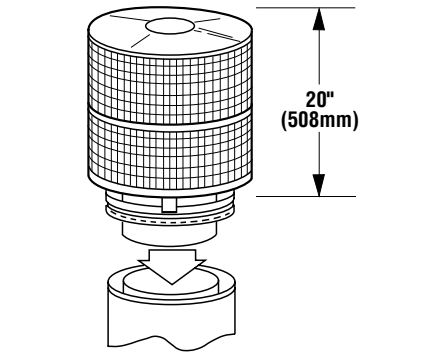

Figure 32
1. Hold FTF13-CTD over top of last chimney section (*see Figure 32*).